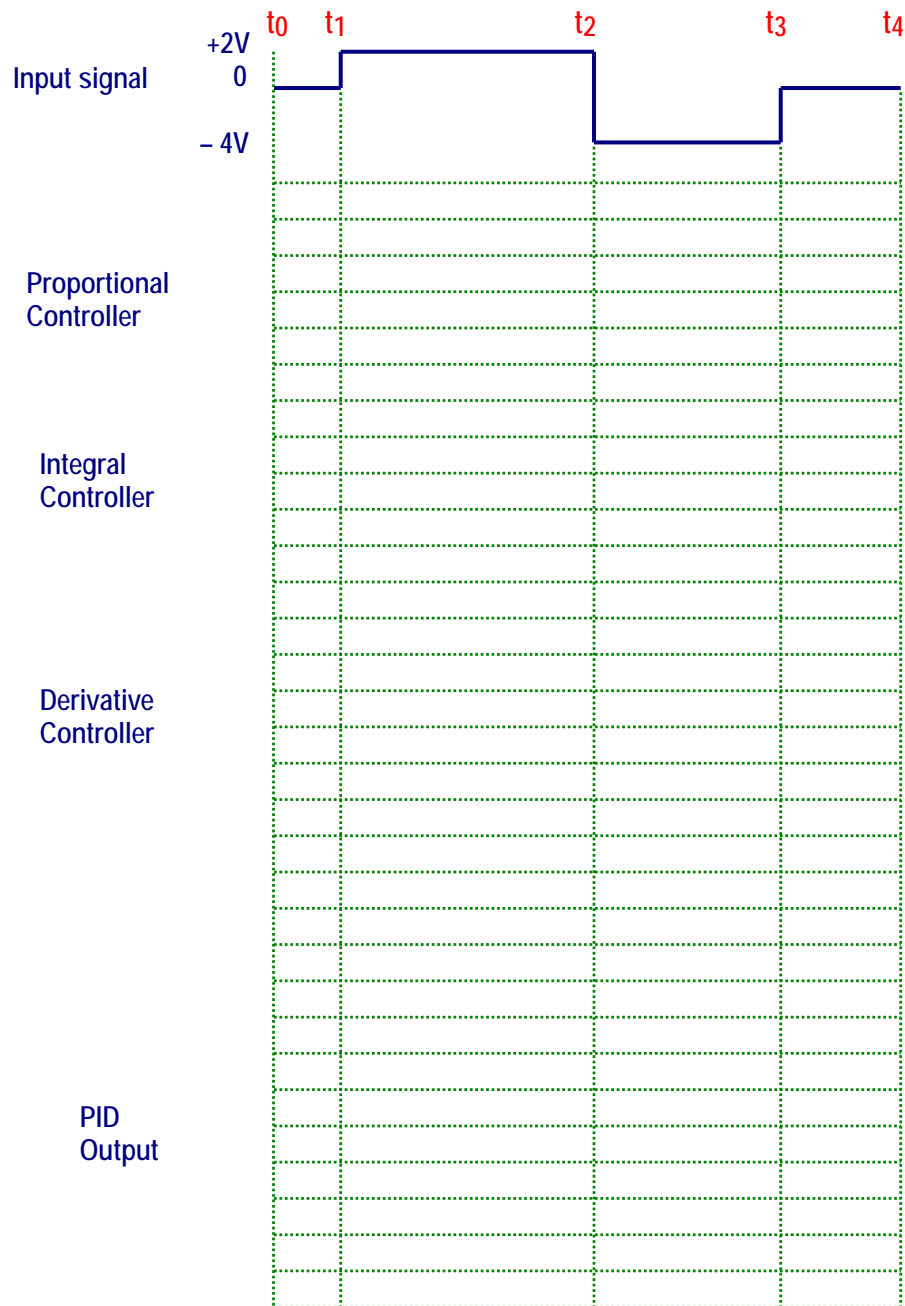

Figure 9-17.
- a. Draw the expected PID output waveform in Figure 9-17.